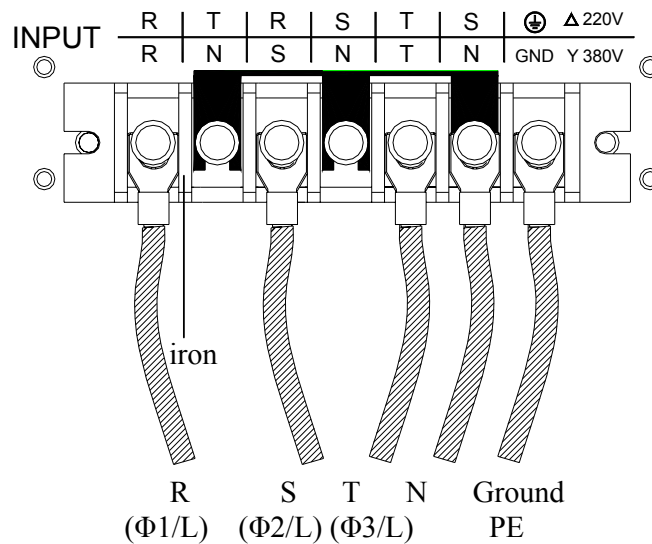

Figure 2-1 380 3~Y Input Connection
Do the following things one by one as Figure 2-1 and 2-2 shows:
2. Select the proper iron and screw the power cord to the input terminal blocks of the AC Source. (See Figure 2-1 and 2-2)